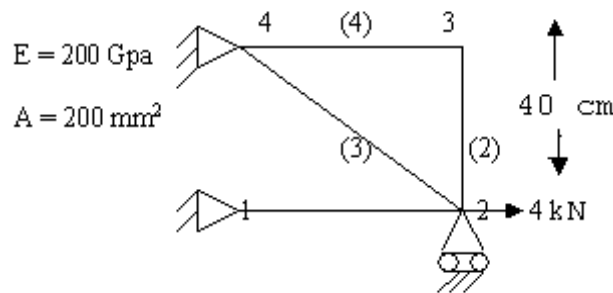

Figure 1:
3. For the truss structure shown in figure1 is subjected to a horizontal load of 4 kN in positive x-direction at node 2. Calculate